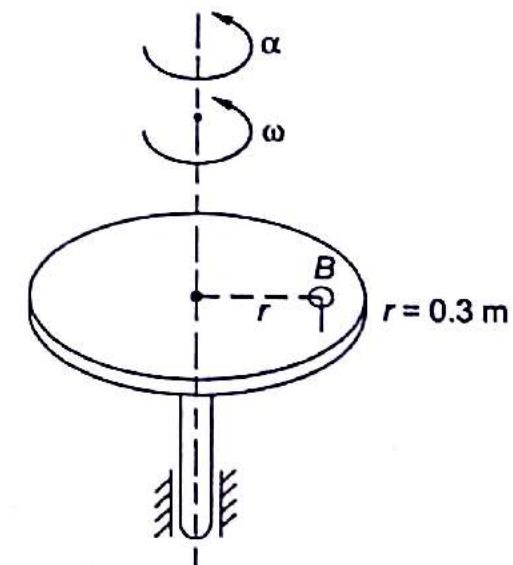

Fig. 13.13
13.3 A small block *B* on the rotating disc starts sliding due to limited static friction, if the total acceleration on the block is 3.5 m/s 2 , as shown in Fig. 13.13. Block is located at a radius of 0.3 m from the axis of rotation. The disc starts from rest at $t = 0$ and is uniformly accelerated at 4 rad/s 2 . Determine the time t and angular velocity of the plate when the block starts sliding.